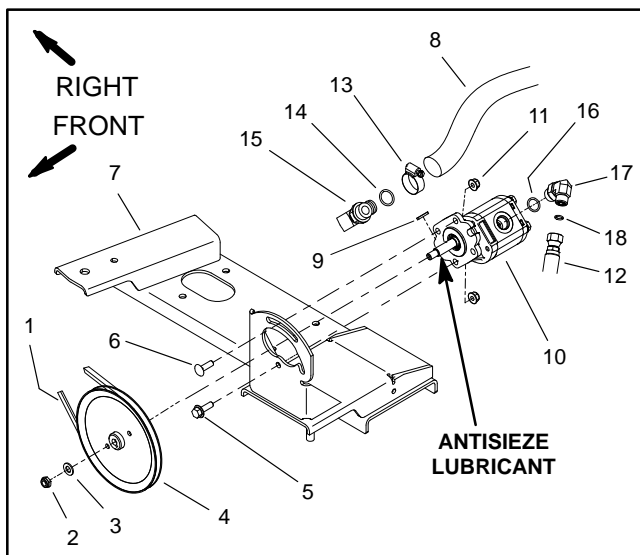

Figure 29
### Removal (Fig. 29)
### Installation (Fig. 29)
2. Install gear pump to mount (Fig. 29) using the following instructions: